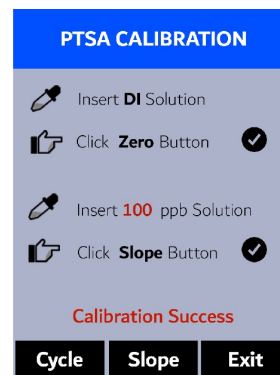

Figure 5.
10. If the calibration succeeds, a checkmark (), a “**Calibration Success**” message will appear (Figure 5). Otherwise, a warning message is displayed.